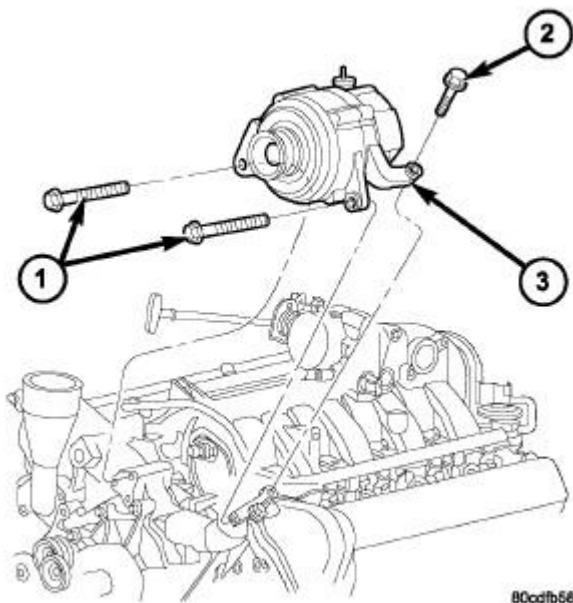

Fig. 19: Generator Removal/Installation
33. Install the generator (3). Refer to **Fig. 19**.